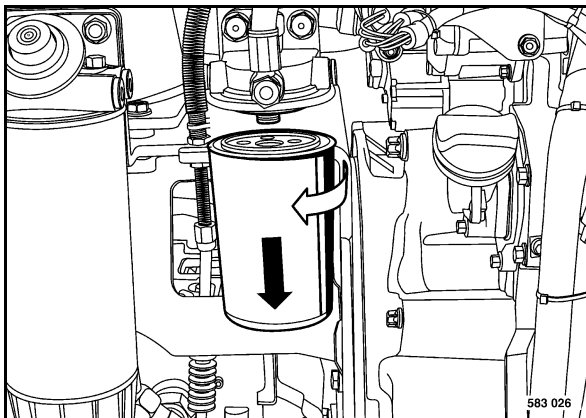

Fig. 158
- Loosen and unscrew the fuel filter cartridge (Fig. 158) using an appropriate filter wrench.